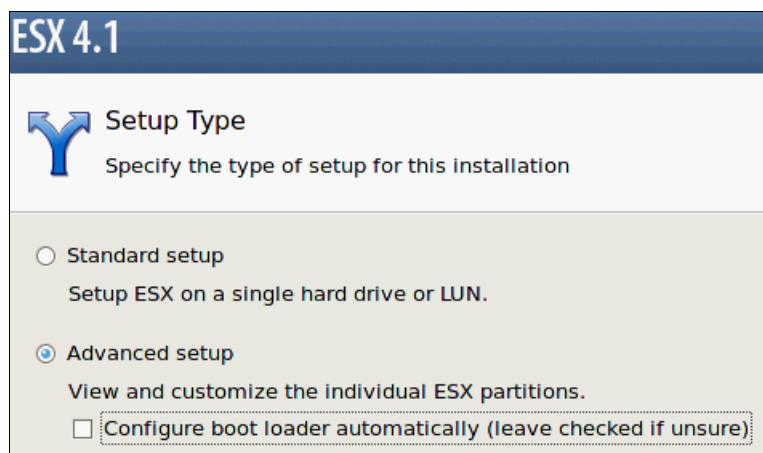

Figure 6-56 Modifying the ESX installation
10. Proceed through the installer until you reach the Setup Type page. Click **Advanced setup** and clear **Configure boot loader automatically (leave checked if unsure)** as shown in Figure 6-56. Click **Next**.